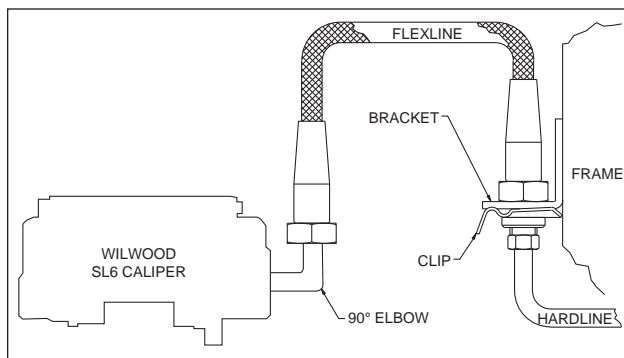

Figure 4. Brake Line Diagram
•**NOTE:** The caliper in this brake kit utilizes a 1/8-27 NPT pipe thread inlet. OEM rubber brake hoses generally cannot be adapted to Wilwood calipers. Wilwood offers a brake flex line hose kit to fit this application, order P/N 220-8176, Figure 4. Hose kit includes hoses, fittings, etc., all in one package for this application. **Carefully route hoses to prevent contact with moving suspension, brake or wheel components.**